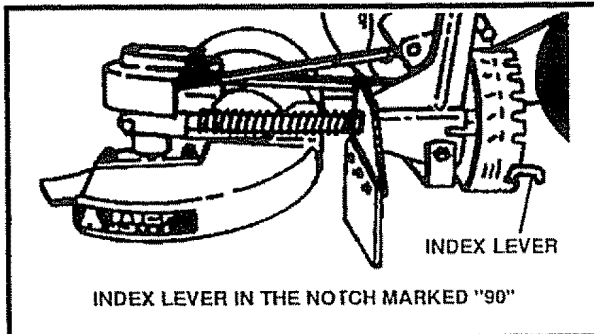

FIG. 9
- Pull the index lever out of its notch (See Fig 9) and position it in the notch marked "90".
- Disconnect the spark plug wire from the spark plug. Turn the cover (See Fig. 9) to the left (counterclockwise) and remove the cover and the air filter from the flange.